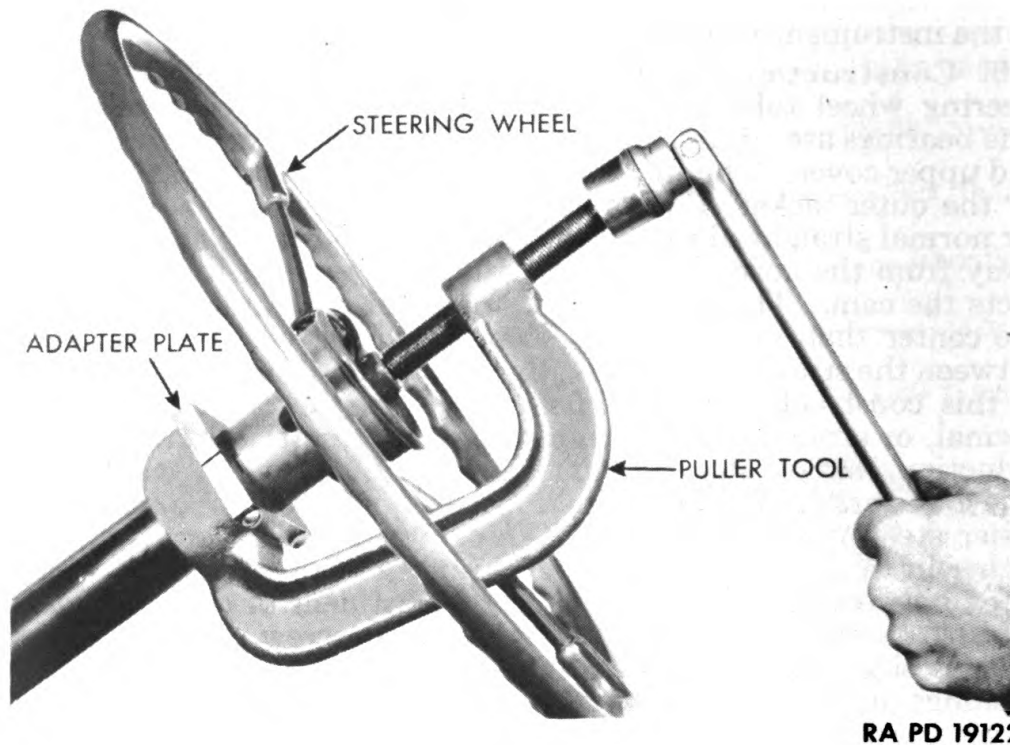

Figure 210 — Removing Steering Wheel
c. Remove Steering Wheel. Disconnect horn cable terminal at base of steering gear housing. To remove horn button, depress and rotate $\frac{1}{6}$ turn to the left. Remove horn button base plate, and remove plate and horn cable. Remove steering wheel nut and lock washer. Remove steering wheel, using a puller and adapter for post (fig. 210).